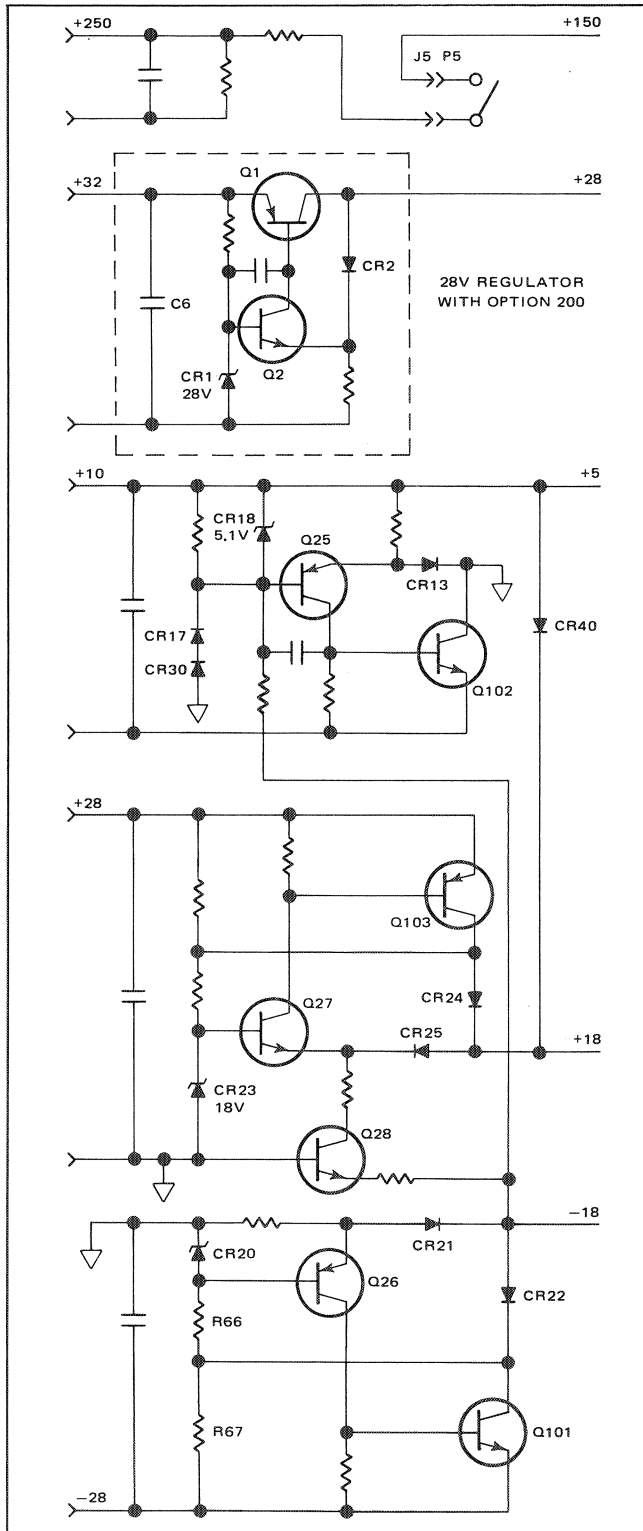

Figure 4.24 - Power Supply
4.126 The power supply (figure 4.24) provides all voltage levels for the operation of the instruments and standby power (with power OFF selected) for the continuous operation of the optional frequency source (with instruments equipped with Option 200). All supplies except the  $+150$  volt supply are regulated.